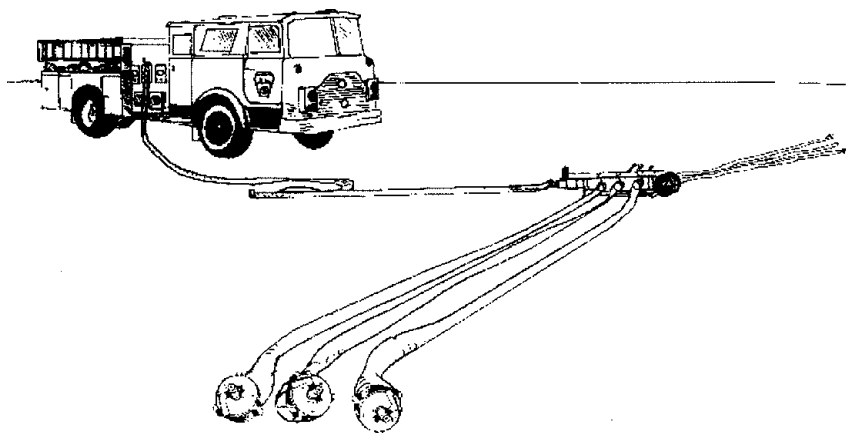

Fig. 7-22
9. Attach hose to outlets of manifold. Up to 6 lengths of hose (300 feet) may be stretched from each of the 2 1/2 inch gated outlets (see Fig. 7-22).